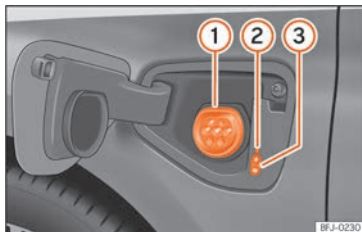

Fig. 228 Behind the battery charging cover on the front left-hand side: Charging socket
» » Fig. 228
- With the vehicle unlocked, the battery charging cover opens when it is pressed » » Fig. 228.